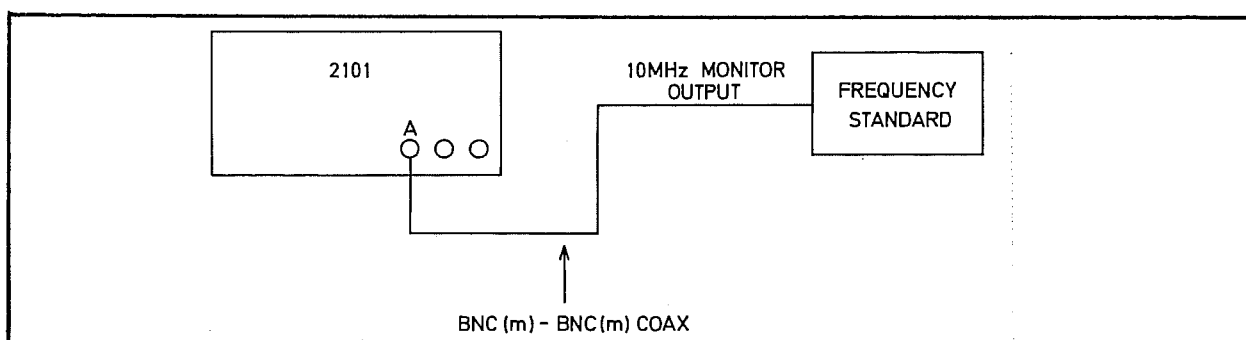

Fig. 7.17 Connections for Internal Frequency Standard Adjustment
- 73 (1) Switch on the 2101. Select FREQ A and verify that '000 000 000' is displayed.
- (2) Connect the test equipment as shown in Fig. 7.17.